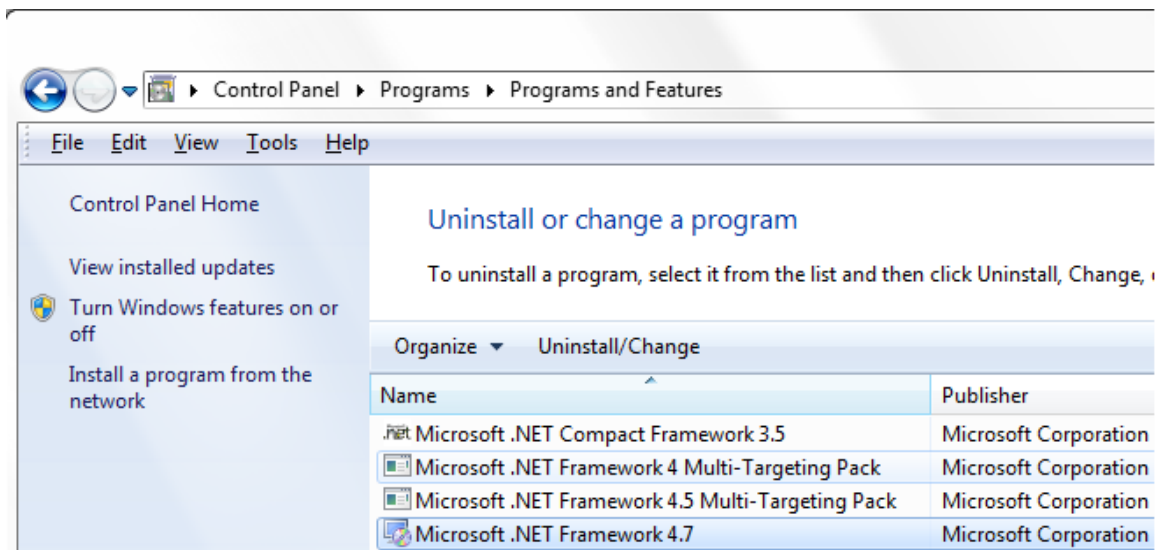

Figure III.1.9: Select Microsoft .NET 4.7.
- Right-click on Microsoft .NET 4.7 and click on uninstall. See Figure III.1.9.